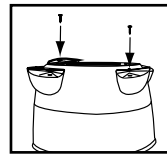

FIGURE 6
6. Make sure caster feet are fully inserted into tank bottom and secure with screws provided. **FIGURE 6.**